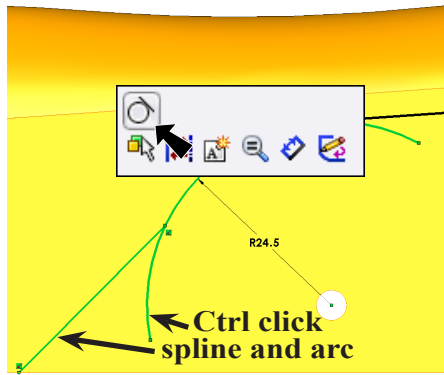

Fig. 97
Step 20. **Ctrl click spline and arc** to select both, **Fig. 97**.
Step 21. Click **Make Tangent**  on the Content menu, **Fig. 97**.